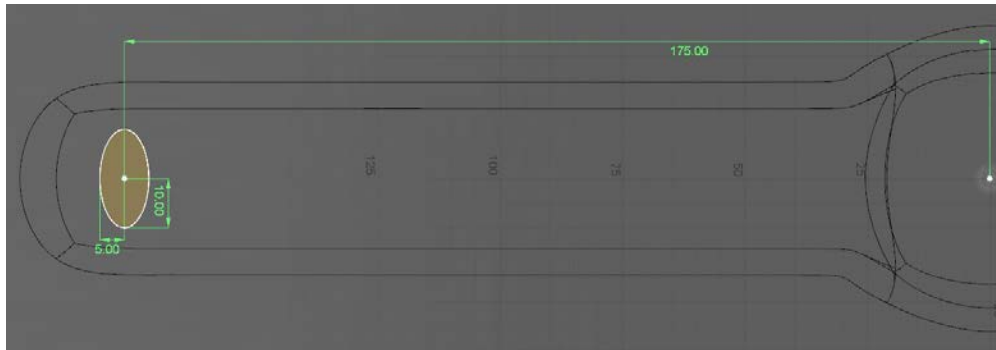

Fig. W10
- b. Under sketch, select “ellipse” and draw an ellipse near the end of the rear bracelet (Fig. W10).